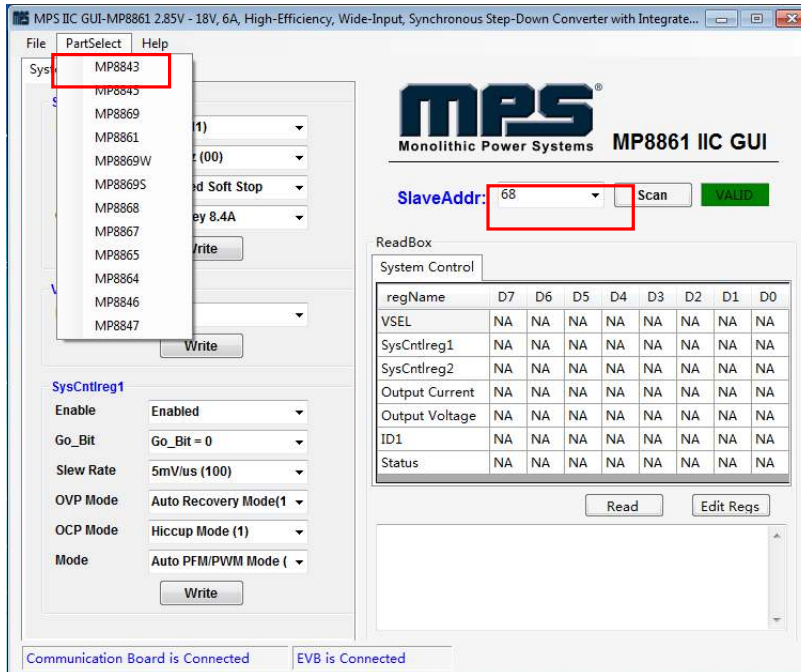
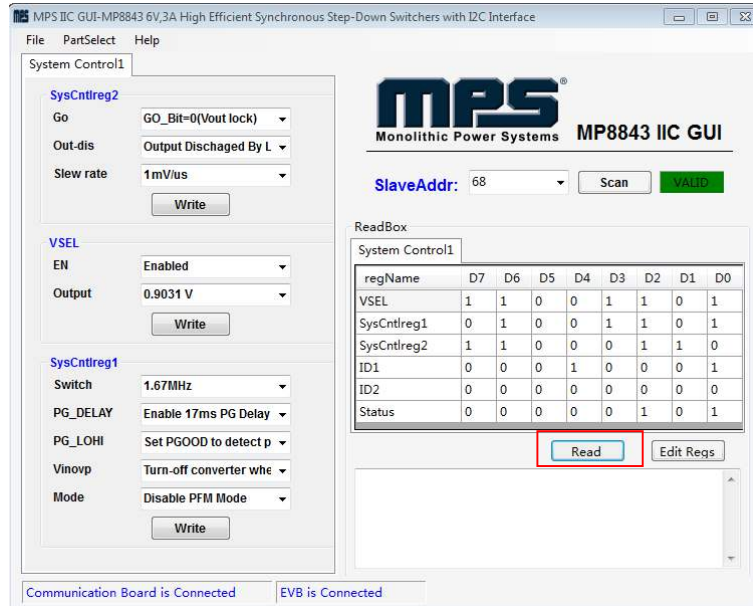

Figure 7: Appearance of Address Shows Successful Connection
Figure 9: Values from I²C Shown in Table
- If connection is successful, the address will be listed in the “Slave Address” (see Figure 7).
3. Click the **PartSelect** button to select the MP8843 (see Figure 7) (The default GUI window is for the MP8861). The Register Control menu will appear on the left side. The I²C register values will be read and displayed on the right side after clicking the **Read** button (see Figure 9).